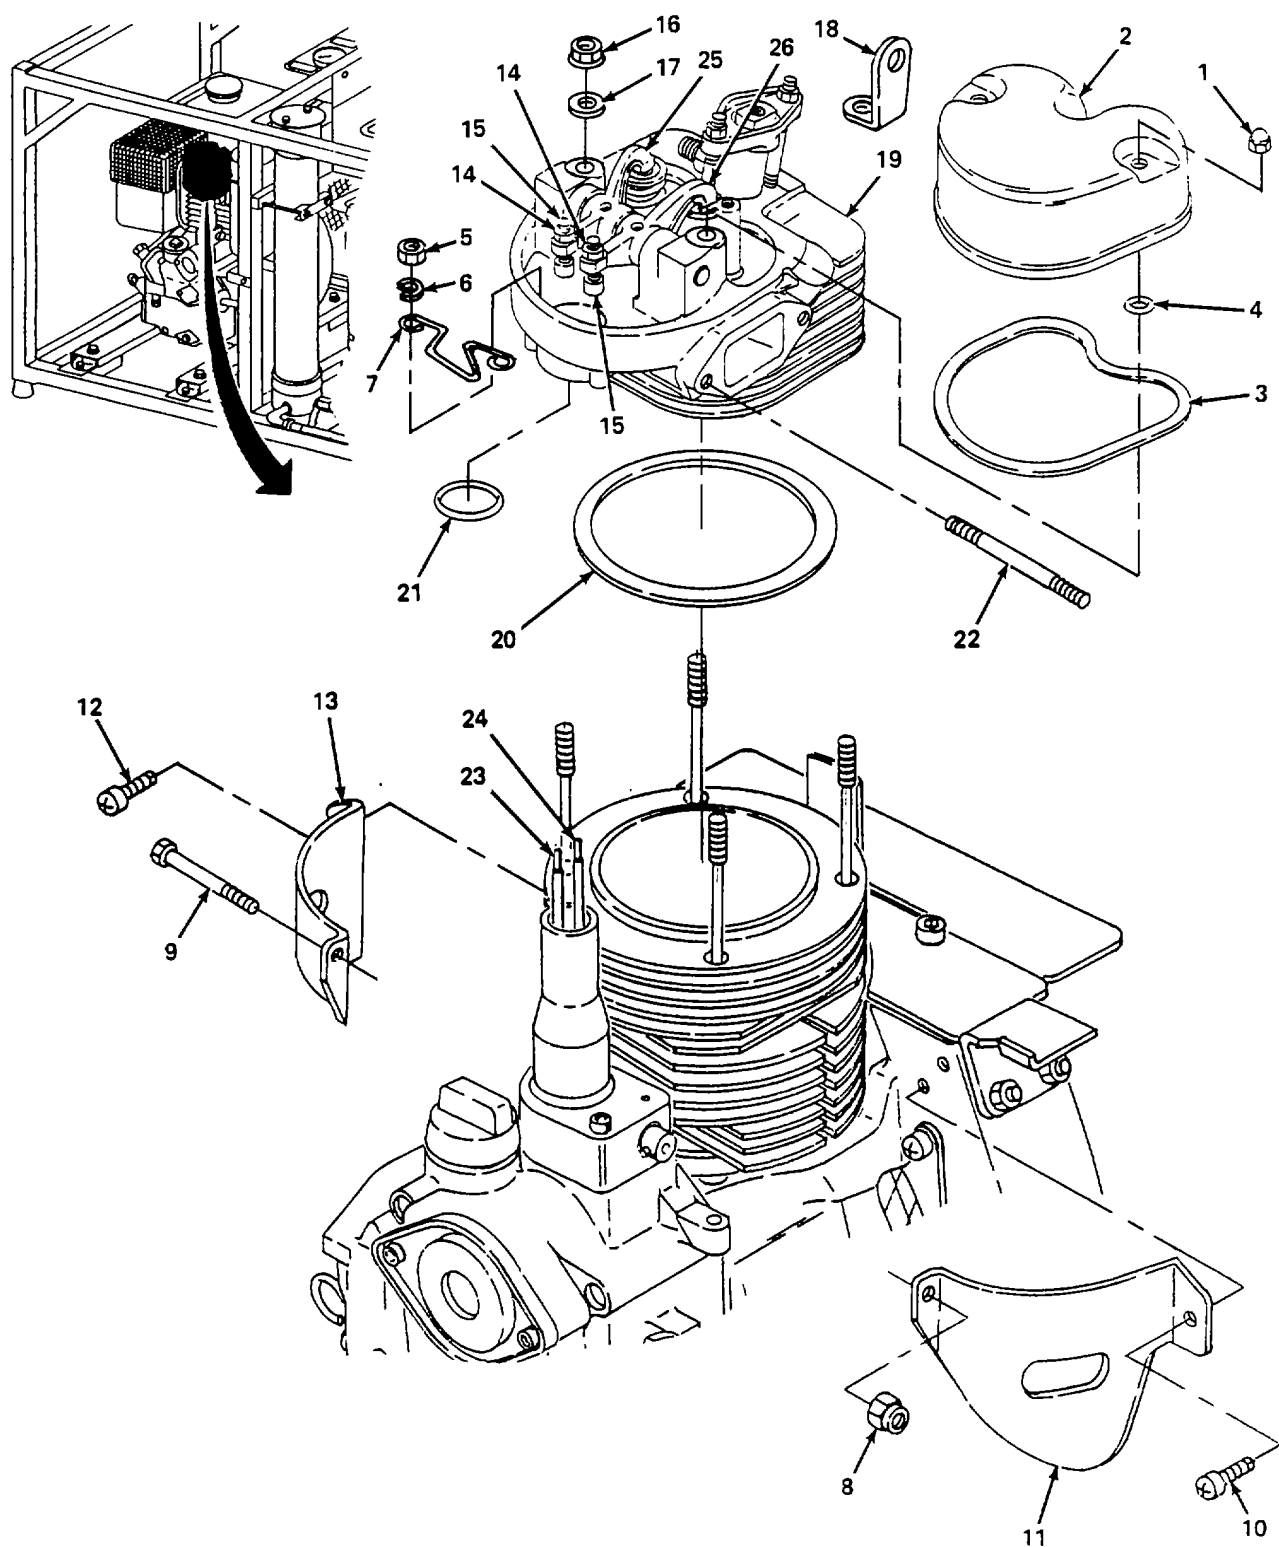

Figure 5-42. Cylinder Head Assembly, Replace.
b. Replace. (figure 5-42)
- (1) Remove two nuts (1) and remove valve cover (2), gasket (3), and two preformed packings (4). Discard preformed packing (4).
- (2) Remove two nuts (5) and washer (6) and remove spring (7).
- (3) Remove nut (8) and screw (9).
- (4) Remove screw (10) and air shield (11).
- (5) Remove screw (12) and air shield (13).
- (6) Loosen two nuts (14) and unscrew adjusters (15) part way.
- (7) Remove four nuts (16), washers (17), and bracket (18) and remove cylinder head (19), gasket (20), and preformed packing (21). Discard preformed packing (21).
- (8) Remove four studs (22).
- (9) Install four studs (22).
- (10) Ensure all gasket surfaces are clean and free of old gasket material.